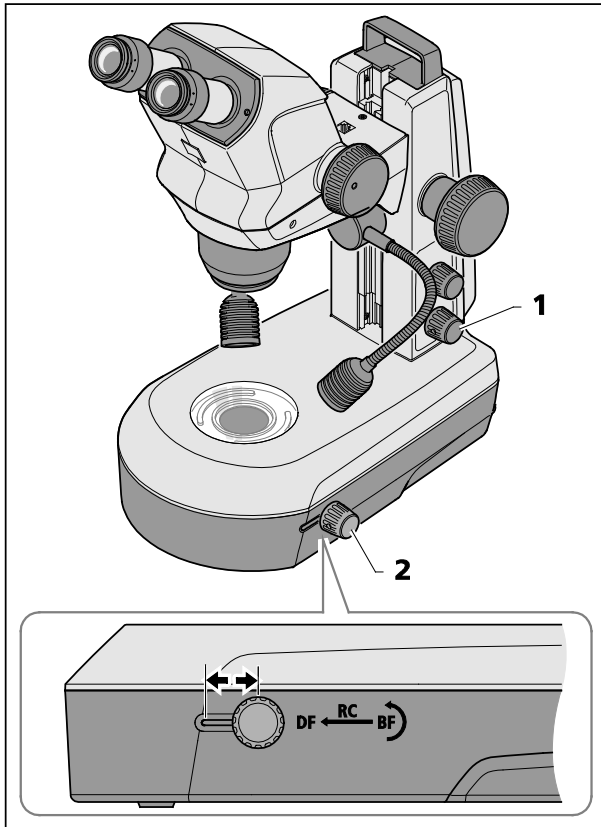

Fig. 20 Transmitted-light unit in stand K LAB
- Switch transmitted-light illumination ON by pressing the lower knob (Fig. 20/1).
- Adjust the bright field (BF) by pushing the sliding knob (Fig. 20/2) into its rear position (BF).
- Turn the rotary knob / slider (Fig. 20/2) to swing the clear or diffuse mirror in position or to adjust the inclination angle.
- Change over to dark field illumination (DF) by pushing the rotary knob / slider (Fig. 20/2) into its front position.
- ☞ Oblique light effects (RC) are produced by pushing the rotary knob / slider (Fig. 20/2) into its central position and by tilting the mirror.